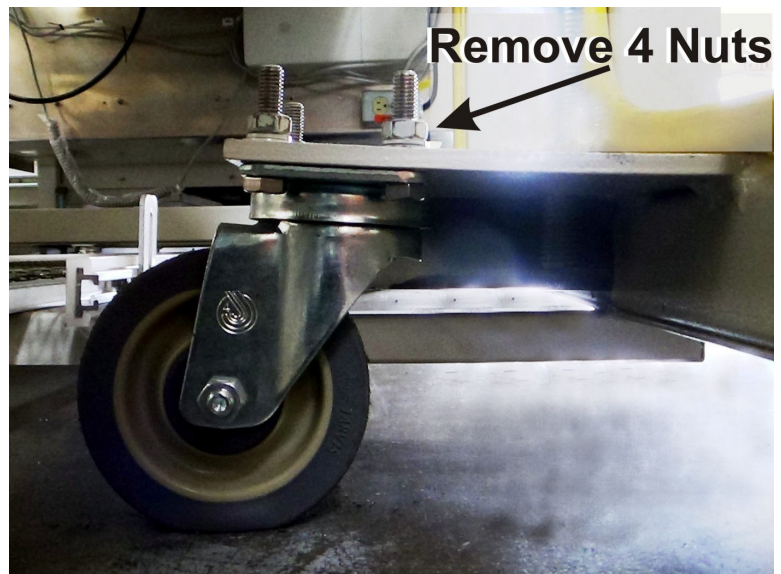

Figure 2-13 Castor bolts
- B. Use open end wrench and socket wrench to remove nuts and bolts holding castors in place, **Figure 2-13**. Remove all castors. Store inside furnace for later use.